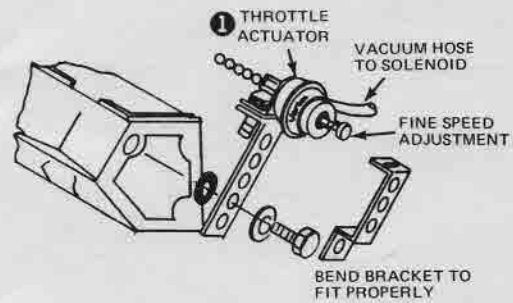

FIG. 1
- Mount the throttle actuator ① in a position that will allow free movement of the ball chain between the throttle lever and the throttle actuator. Examples of mounting techniques are shown in FIGS. 1, 2 and 3.